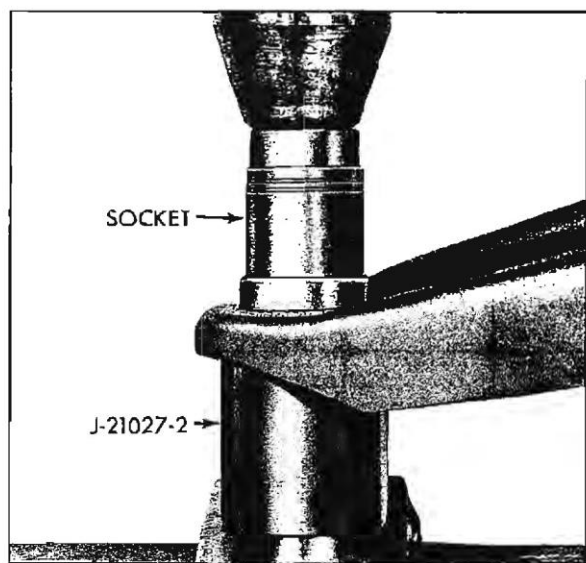

Fig. 3-22 Pressing Ball Joint from Lower Control Arm
1. Using suitable socket as driver and tool J-21027-2 as support, press ball joint from control arm as shown in Fig. 3-22.